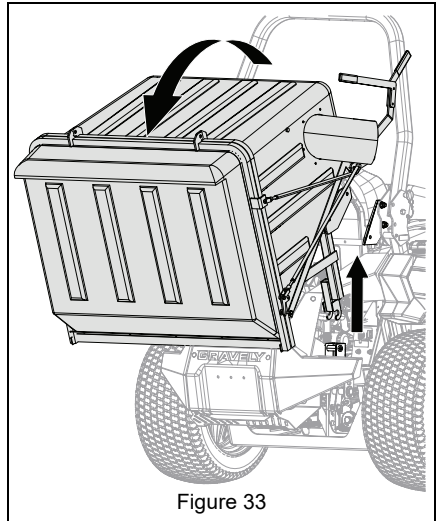

Figure 33
2. Remove pins from ROPS brackets and rotate bagger rearwards. Lift bagger arms off rear frame mounts. See Figure 33.